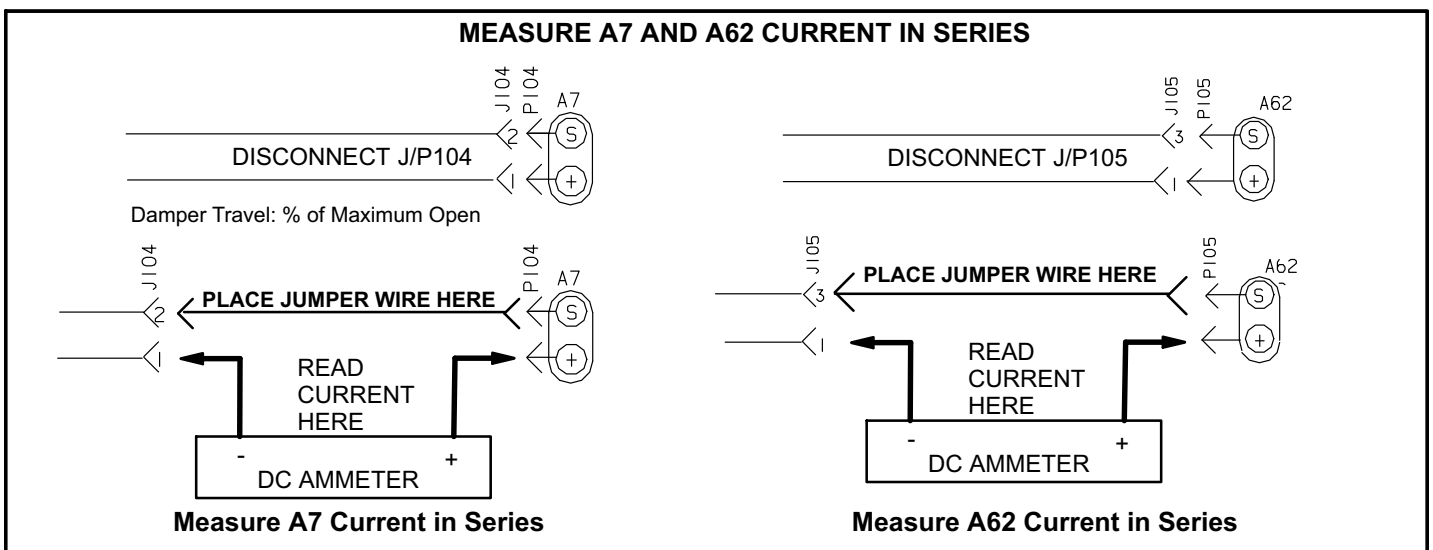

FIGURE 39
- Connect a direct current ammeter as shown in figure 39 to measure current output of A7 or A62.